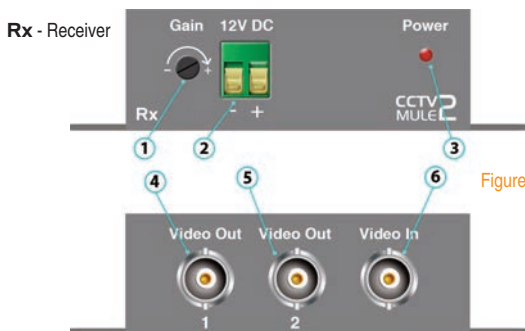

Figure 2
1. The RG59 co-ax cable from the transmitter connects to the 'Video In' port (figure2, 6) of the mule receiver.
2. Connect your video cables from the 'Video Out' ports marked 1 and 2 (figure 2, 4 & 5) to your video in inputs on the back of your 2 LCD Monitors.
3. If you find the video quality is low when coming out of the receiver, you can use the 'Gain' control knob (figure 2, 1) to fine adjust the video image. This is especially useful when transmitting over distance.
1. Connect the RG59 co-ax cable from the transmitter to the 'Video In' port (figure 2, 6) of the receiver.
2. Connect an LCD monitor into the 'Video Out' port 1 (figure 2, 4) of the receiver.
3. Connect a video input signal like a camera into the 'Video Out' port 2 (figure 2, 5).
3. Connect an audio output device such as the VoiceOff into the 'Video Out' port 2 (figure 2, 5).
3. Connect an audio input device such as microphone into the 'Video Out' port 2 (figure 2, 5).
A.4 Ensure that the audio input is in 'Video In 2' (figure 1, 6) on the transmitter (TX) Mule as this is the only port that will transmit audio. Check the audio output device at the receiver (RX) end is in 'Video Out 2' (figure 2, 5). Also make sure your audio source is working ok.